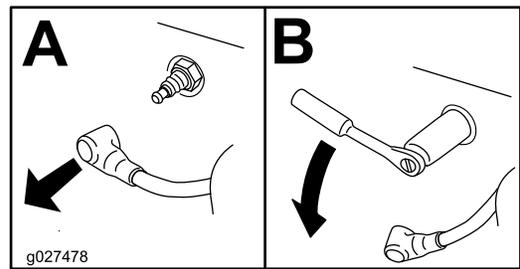

Figure 41
- Remove the spark plug (Figure 41).